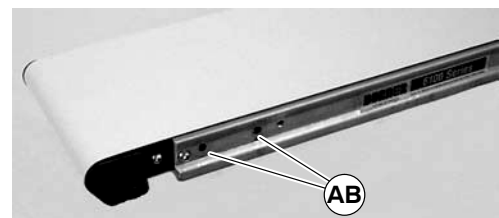

Figure 13
6. On side opposite drive output shaft, remove two screws (AB of Figure 13).